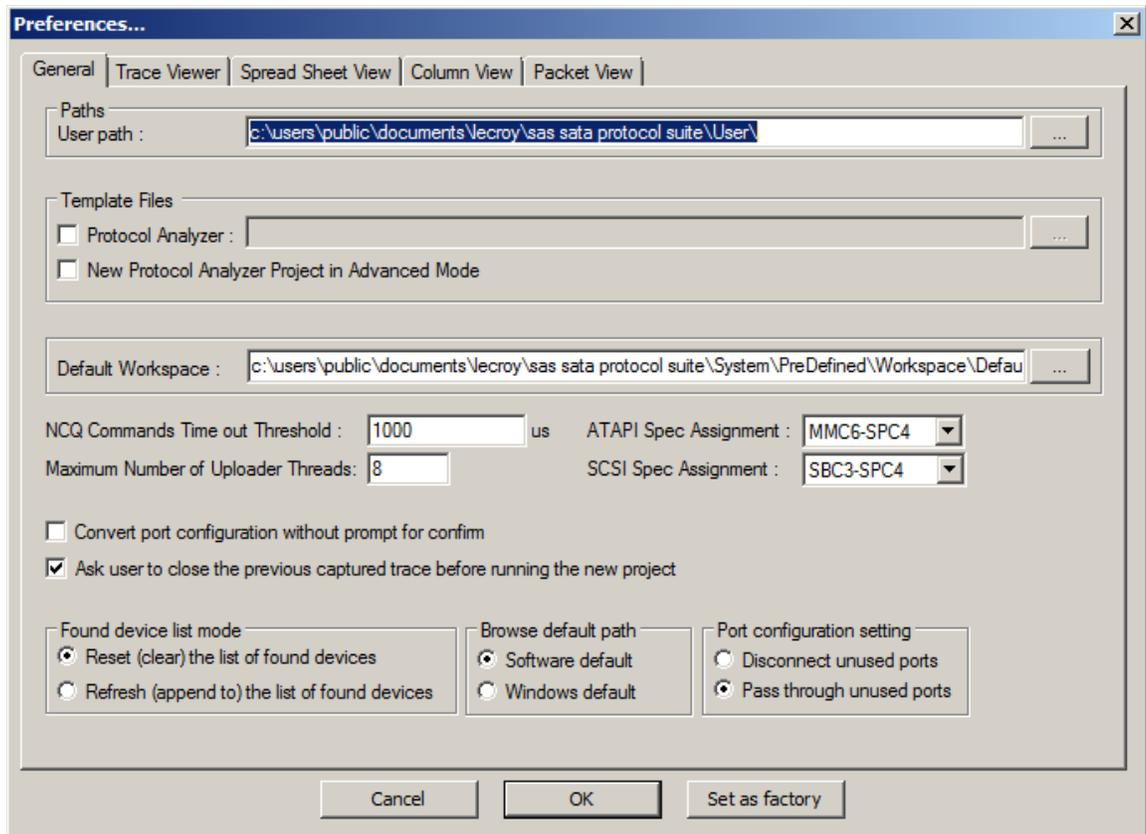

Figure 3.143: Preferences Dialog General Tab.
**Preferences** allows you to define template files for new Analyzer projects, to specify how sample files appear when opened, and to set ATAPI and SCSI Spec Assignments. Click **Setup** on the toolbar and choose **Preferences** to display the General tab (see Figure 3.143).